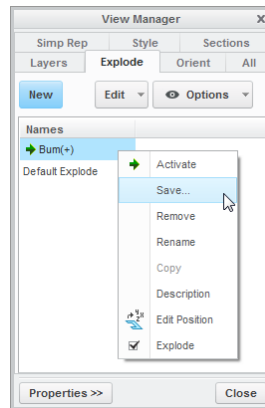

Figure 5: Saving Explode view.
9) Close Explode Tool by selecting . Select **<<List**. Click **RMB** over previously created explode (*Bum* in this case) and select **Save** (Figure 5). Click **OK** to the next window. Remember always to save your view, otherwise it will be lost!